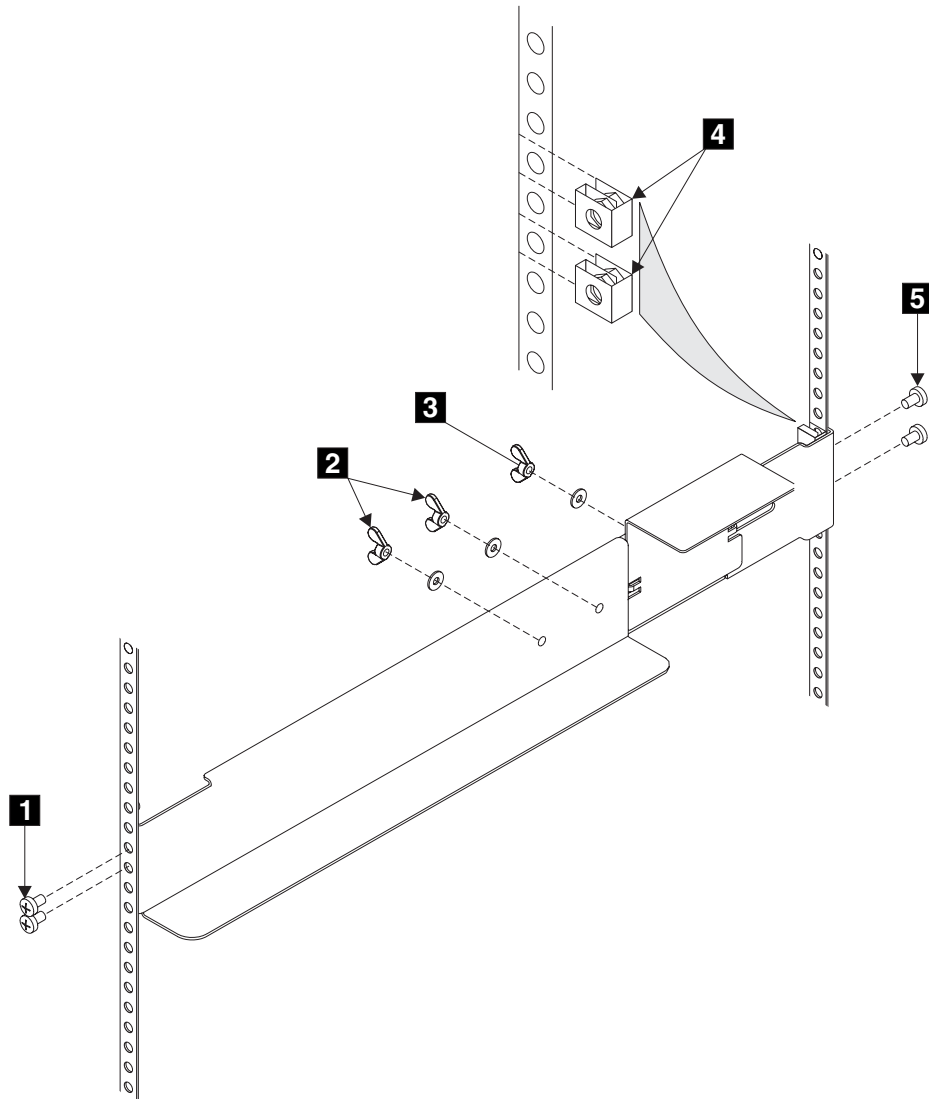

Figure 184. Installing support rails for a 2145 UPS into the rack
1. Attach nut clips **4** to the rack (see Figure 184 on page 398). These nut clips must align with the second and fourth holes of the support rail flange.